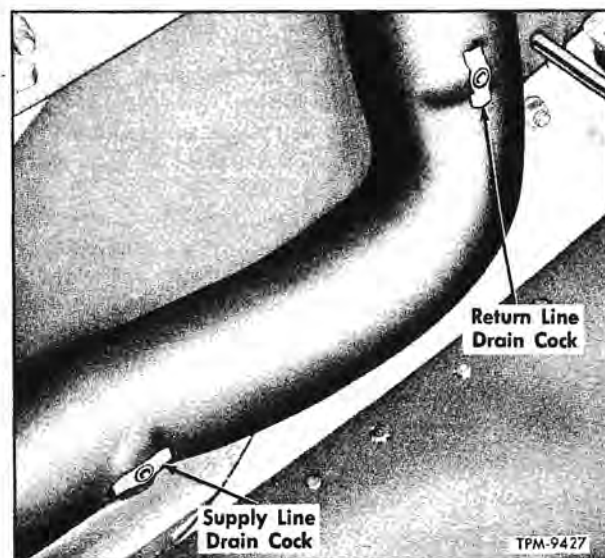

Figure 13—Defroster Heater Line Drain Cocks
7. Open two drain cocks (fig. 13) in defroster heater lines. Drain cocks are accessible from underneath driver's compartment.